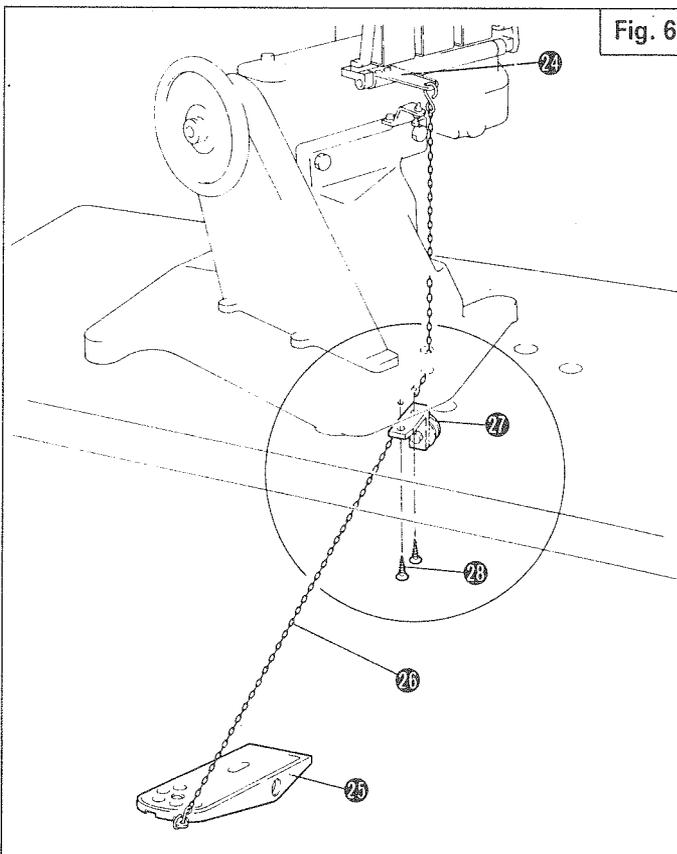

Fig. 6
6. Refer to Fig. 6 and connect Lever ㉔ to Pedal ㉕ with Chain ㉖ and attach Pulley ㉗ to the position where the chain can move smoothly.